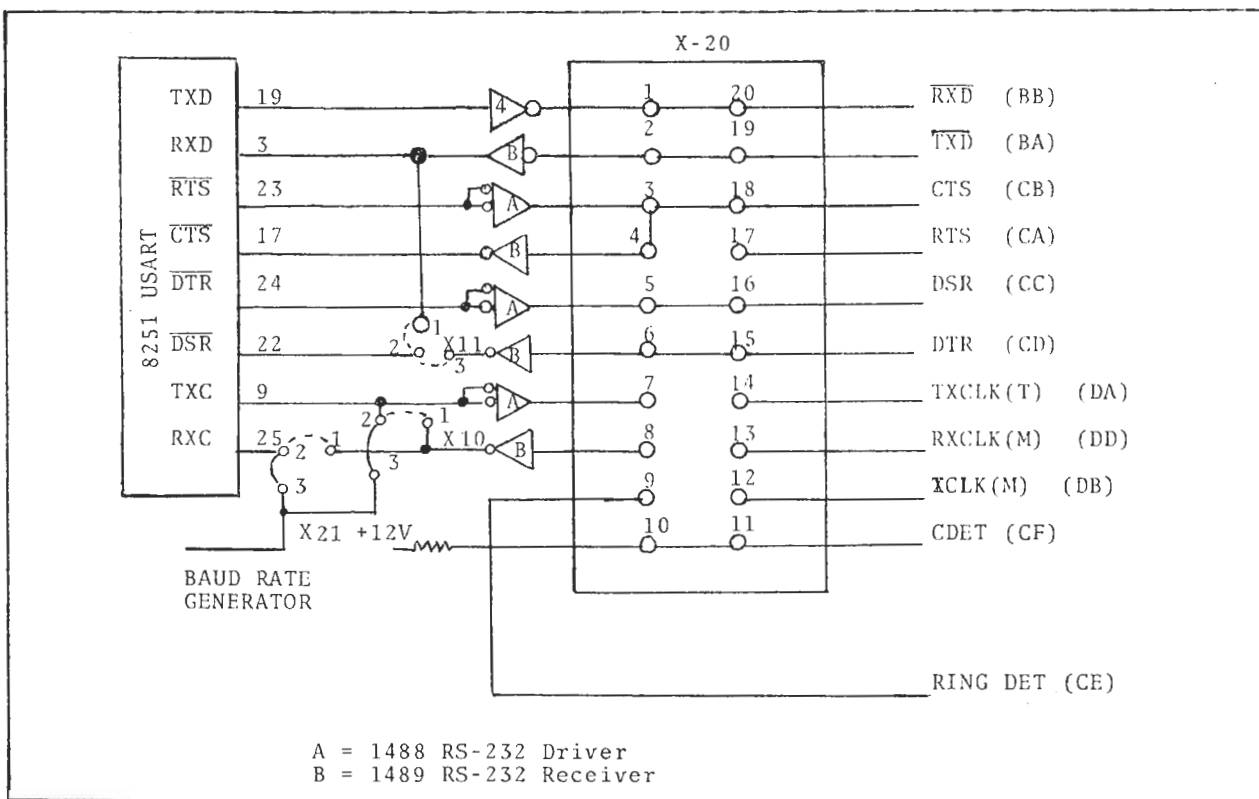

Figure 2-6. X20 Physical Pin Arrangement.
Figure 2-6 illustrates X20. X20 must be jumpered for the user's system requirements and allows either modem look-alike or terminal look-alike operation. The standard option is modem look-alike which are etch jumpered on the back of the PC board. (See solid lines on Figure 2-6).
There are many possible configurations for the RS-232 interface depending upon whether the SBC-200 is to operate in "MODEM LOOK-ALIKE" or "TERMINAL LOOK-ALIKE" mode and synchronous or asynchronous mode. Synchronous modems, for example, supply the clocks for transmit and receive data (1 x BAUD RATE). In that case the RXCLK(M) and TXCLK(M) would be connected to the 8251 USART. However, the most common use of this RS-232 port is in the MODEM LOOK-ALIKE/ASYNCHRONOUS MODE. This allows direct connection to "DUMB" CRT terminals and serial printers. For other modes of operation, the user should study Figure 2-6 and make the necessary jumper connections. Table 2-9 shows the standard configuration which is etch jumpered on the back of the PC board. For other configurations these jumpers may be cut.